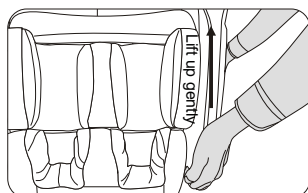

Figure 10
- Gently lift up the front-end of armrest, pull out the buckle. (figure 10)